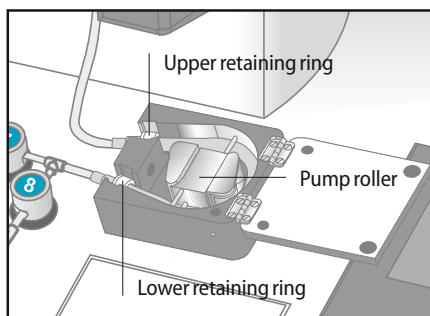

Figure 4-3.6: Load pump tubing
2. Insert the upper retaining ring on the pump tubing into the retaining ring groove on the pump housing (see Figure 4-3.6).
3. Rotate the pump roller clockwise (see Figure 4-3.6) until the tubing is threaded between both sets of the tubing guide pins and the tubing fits snugly around the pump roller. Ensure the tubing is not pinched at the end of the guide pins. If adjustment of the tubing inside the pump is necessary, the tubing can be unloaded by lifting the lower end and turning the pump roller anti-clockwise.
4. Insert the lower retaining ring on the pump tubing into the retaining ring groove on the pump housing (see Figure 4-3.6).